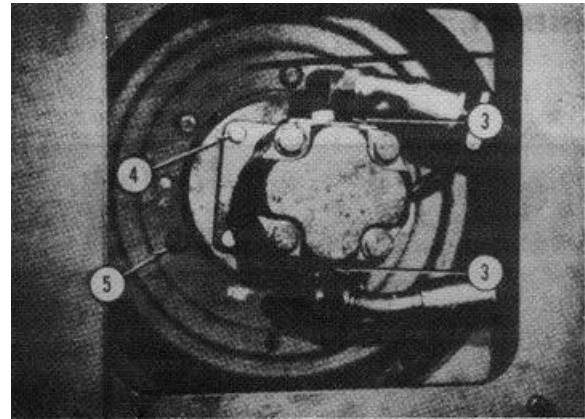

FIGURE 22
4. Figures 22 and 23 Drive End Remove the hose clamp holding the two high pressure hoses in place. Loosen slightly (but do not remove the two hydraulic elbow fittings (3) threaded into motor). Remove four cap screws (4) holding the motor to the motor and wheel mount Pull and swing out the motor from mounting frame.
6. Refer figure 22. Remove six cap screws (5)